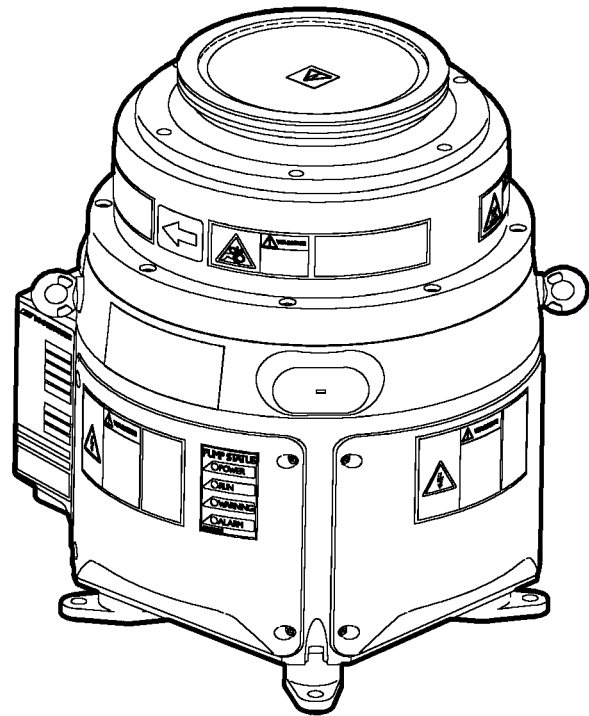

Figure 2 - The EPX L Dry Vacuum Pump
The stator of the pump and the enclosed motor are cooled by an integrated water cooling circuit. The EPX pump is therefore suitable for applications in cleanroom environments where fan cooling is unacceptable. The cooling water supply and return pipelines are connected to the pump by water connectors (customer specified) (Figure 2, items 4 and 9). Cooling water must be provided commensurate with environmental conditions (humidity and temperature) such that the dewpoint is not reached. Refer to Table 9 for the water supply specifications.
Refer to Figure 2 and 3. The pump incorporates an EMC supply filter and an inverter drive, which provides and controls the electrical supply to the pump-motor. LEDs on the front cover identify the status of the EPX pump: (refer to Figure 3, items 2, 3, 4, and 5 and Table 1). Motor speed depends on the pressure at the pump inlet. When the pump is started with the inlet pressure at or close to atmospheric pressure, the motor accelerates to a speed which is limited by the current which can be supplied by the inverter drive. As the pressure at the inlet is reduced, the motor speed increases, until it eventually reaches its preset maximum speed. If the pressure at the inlet increases, the motor will slow down again.
The EPX pump is supported by four vibration isolators (Figure 2, item 7).
This pump is for use on clean duty applications pumping inert gas mixtures, such as loadlock, whereby control is provided by the process tool interface. (Refer to Figure 2).
Cooling-water inlet and outlet (Figure 2, items 4 and 9)	Use these to connect your cooling-water supply and return pipelines to the EPX pump: refer to Section 3.8.
Electrical supply cable (Figure 2, item 6)	Use this to connect your external electrical supply to the EPX pump: refer to Section 3.9 and 3.10.
TIM (Figure 2, item 5)	Use this to connect your control equipment to the EPX pump, to allow you to control the operation of the pump: refer to Section 3.11.
Protective Earth (ground) stud (Figure 2, item 3)	Use this to earth (ground) the EPX pump: refer to Section 3.10.
The EPX L and N series of pumps cannot be manually operated; they must be controlled and monitored by external control equipment, which must be connected to the EPX pump through the TIM (Figure 2, item 5).